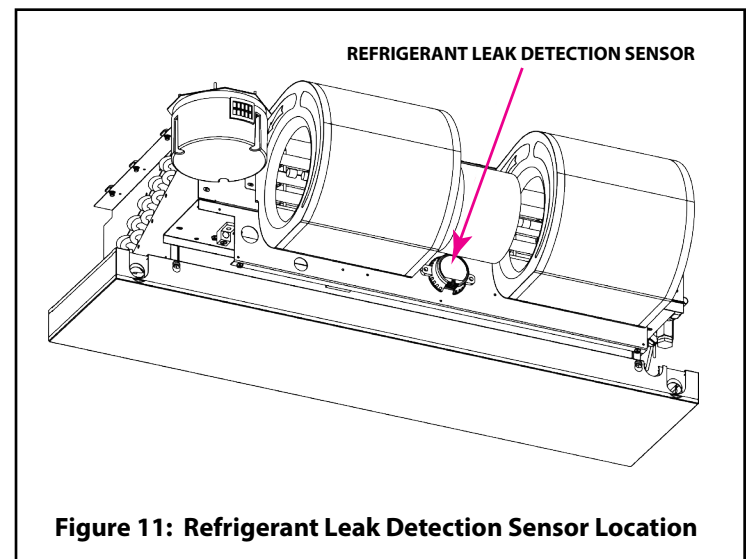

Figure 11: Refrigerant Leak Detection Sensor Location
- 4. Refrigerant Leak Detection System** – A refrigerant sensor is attached to a bracket located below the blower motor. Should a refrigerant leak occur in the coil itself or tubing, the sensor will detect the leak and energize the indoor blower and disable the outdoor unit compressor. The leak detection system consists of a single device that houses a refrigerant sensor and internal relays. Refer to Figure 11 for the location of the refrigerant leak sensor.
This section explains how the hydronic heat air handler controls operate. Refer to Figures 11 - 14 for component locations.
and energize the indoor blower and disable the outdoor unit compressor. The leak detection system consists of a single device that houses a refrigerant sensor and internal relays. Refer to Figure 11 for the location of the refrigerant leak sensor.